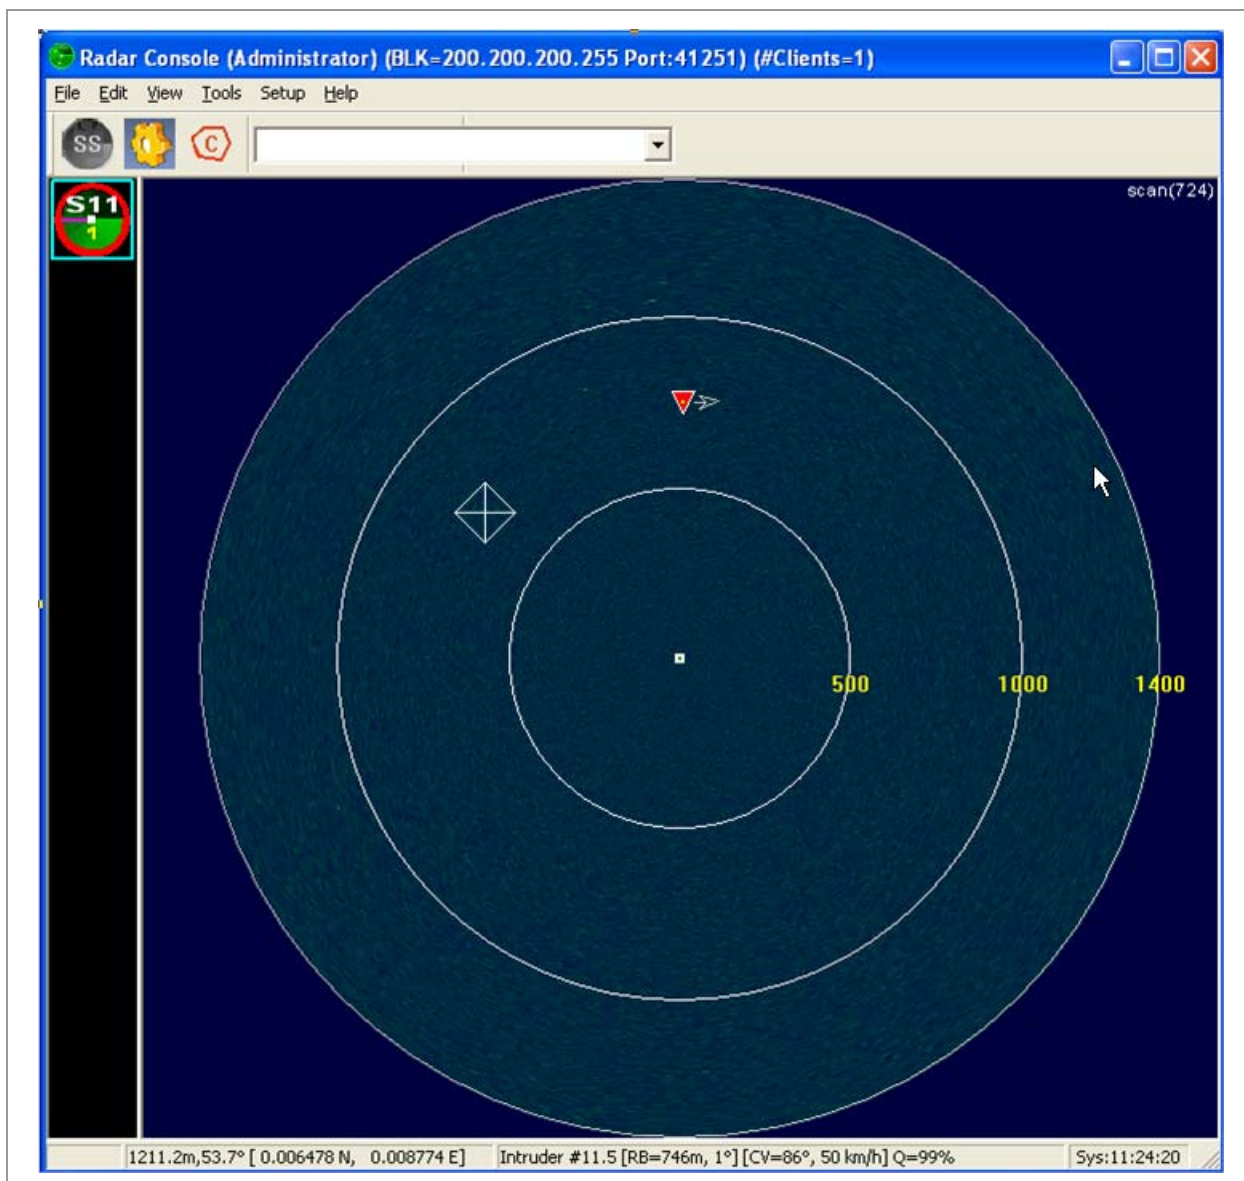

Figure 14 - Creating a Zone (Step 1 of 4)
A **zone** consists of a polygon made with three (3) or more sides. Each segment is added by left-clicking with the mouse at the desired location. **Figure 14** through **Figure 17** shows a typical zone during the edition process. The dashed line shows how the zone will be defined if the user completes the command.